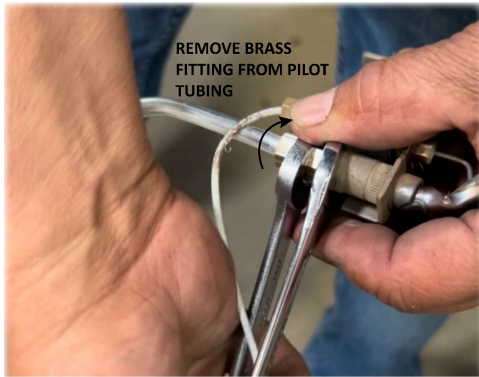

Figure 11. Remove Brass Fitting
- Using a 1/2" and 7/16" open-ended wrench, remove the Pilot's brass fitting. This will expose the Pilot's Orifice Cavity and Orifice (See **Figure 11**).